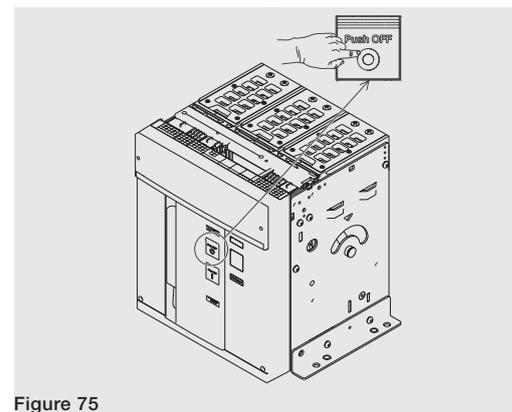

Figure 75
6. Opening - Press the opening pushbutton "O - Push OFF" as indicated in Figure 75.